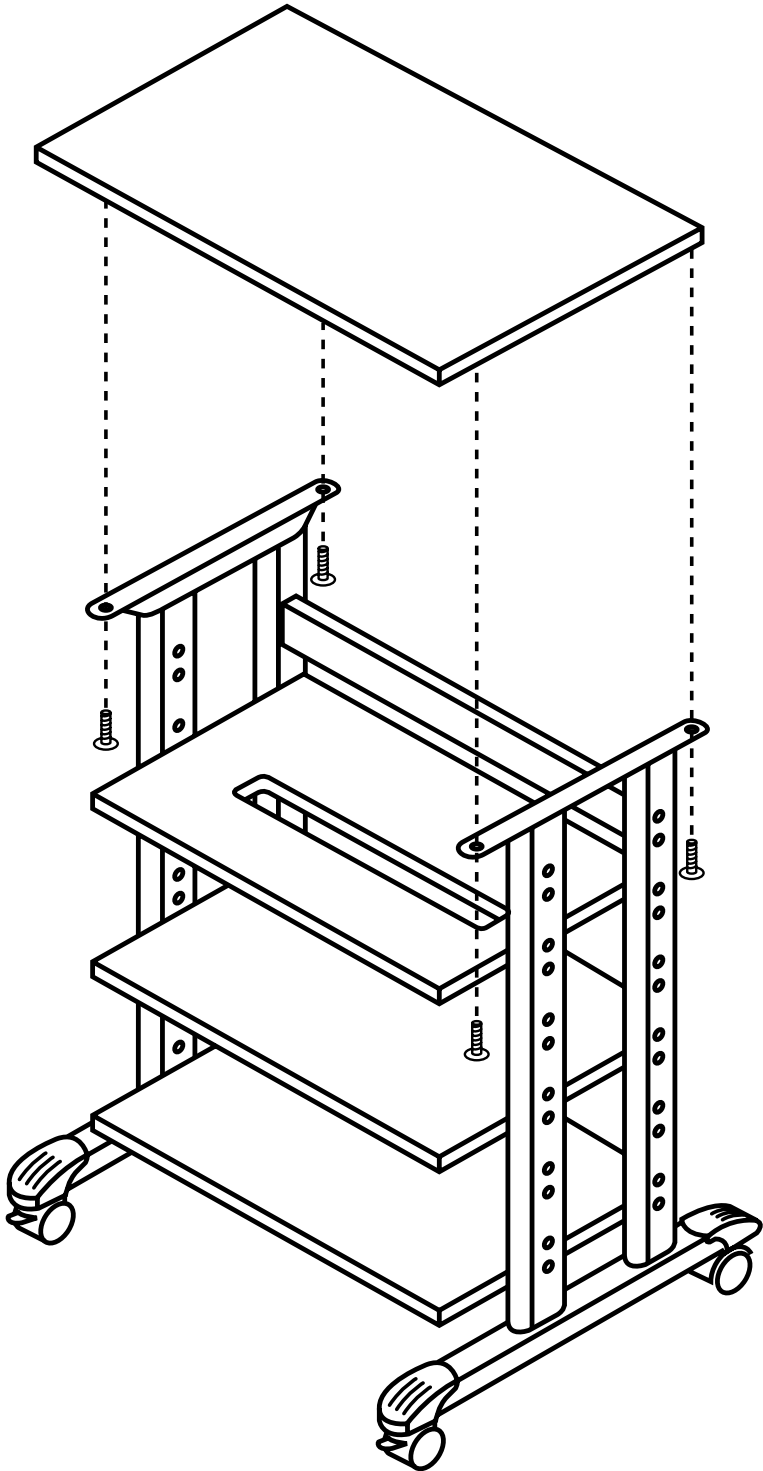

Figure 5. Installing the top panel.
5. Place the top panel on the leg assembly (see **Figure 5**). Align the holes in the panel to that of the steel supports. Secure with the four wood screws. Tighten completely.